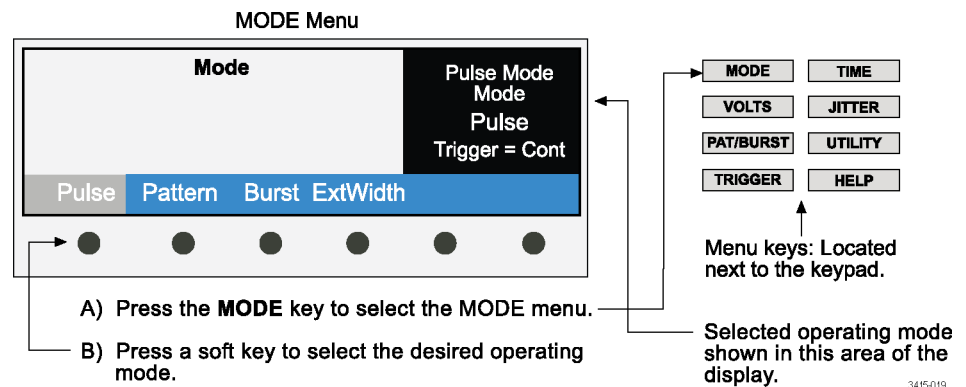

Figure 16: Select operating mode
1. Select the Pulse mode as presented in the *Select operating mode* illustration. (See Figure 16 on page 23.)